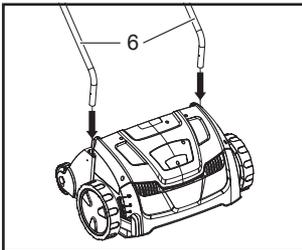

Fig. 1a
a). Align the lower handle bars (6) with the supports (8). Make sure the holes in the lower handle bars correspond with those in the supports (8) and secure the bars with one screw (7) each to the support (8). (See Fig. 1a, 1b).